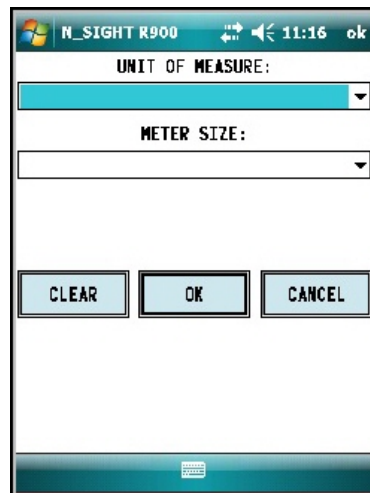

Figure 22 – Meter Size Selection
2. After the data logging process is completed, choose the meter size. See Figure 22 on page 23.